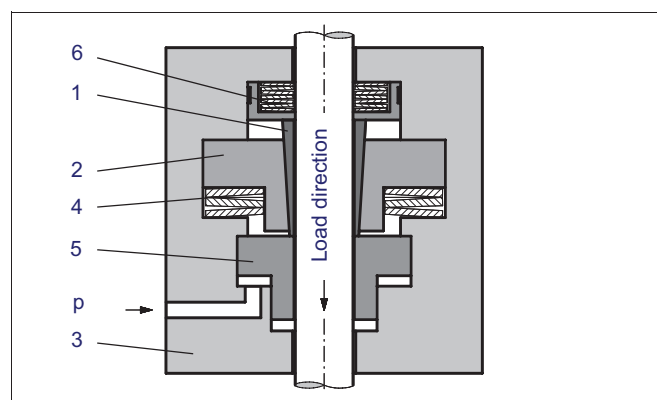

Fig. 1: Structure, clamping released
As shown in Fig. 1, the clamping system consists of a conical clamping sleeve (1) with an outer cone moving within a clamping ring (2). This whole clamping system is movable inside the housing (3) against the force of the disc springs (4). In released condition, the annular piston (5) keeps the clamping sleeve pushed against the set of disc springs (6) by pneumatic pressure, so that the shaft can move freely in both directions.
Acting force does not exceed the nominal load M , the movement of the rod is very small, typically under 0.5 mm. The position of the clamping ring remains in its original position, because the spring force V (4) is somewhat larger than M (see Fig. 1).